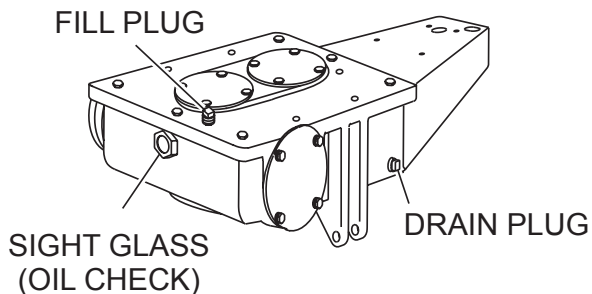

Figure 12. Gearbox Oil
1. Check the gearbox oil level in each gearbox by observing the sight glass at the rear of the gearbox. See Figure 12.